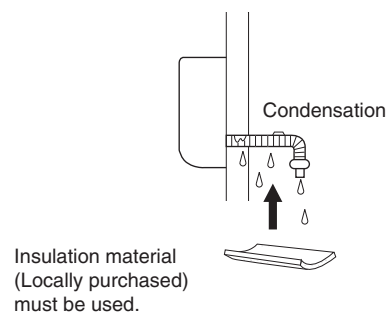

Fig. 3-36
- c) If the drain hose will run in the room, insulate the hose with insulation* so that chilled condensation will not damage furniture or floors. (Fig. 3-36)